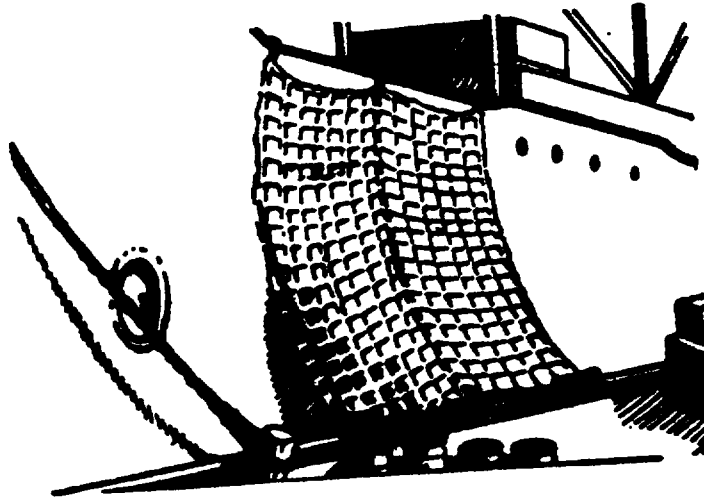

Fig. 7-1b Save-all
- b Cargo nets are used to advantage when handling non-uniform packages. The nets may be made of manila, wire rope, or more commonly, of nylon webbing. Depending on the size of the load, cargo net beackets maybe attached directly to the hoisting hook. They may also be used with a four-legged (or ganged) bridle (See **Figure 7-1b**.)